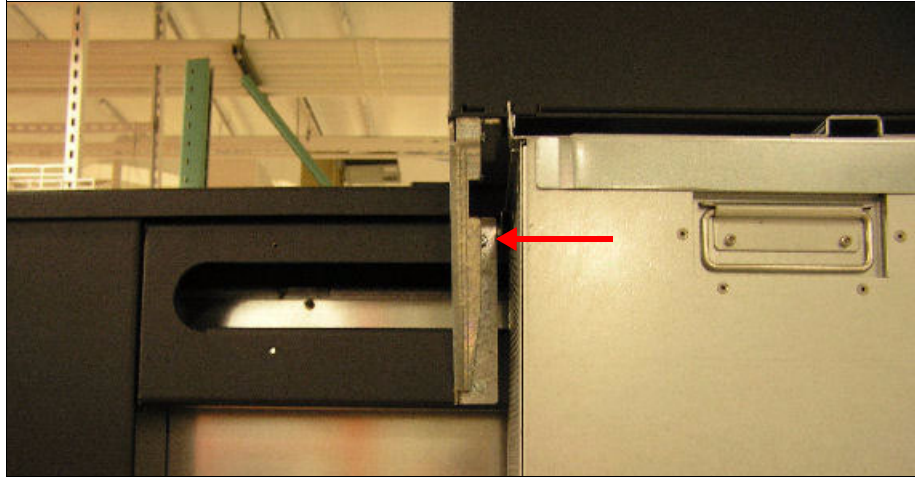

Figure 2-2 I/O support bracket
5. Install the I/O support bracket using four screws (part number 97P5047). Two screws are required for the I/O enclosure and two screws are required for the rack. This bracket is required if the rack is moved. See Figure 2-2.